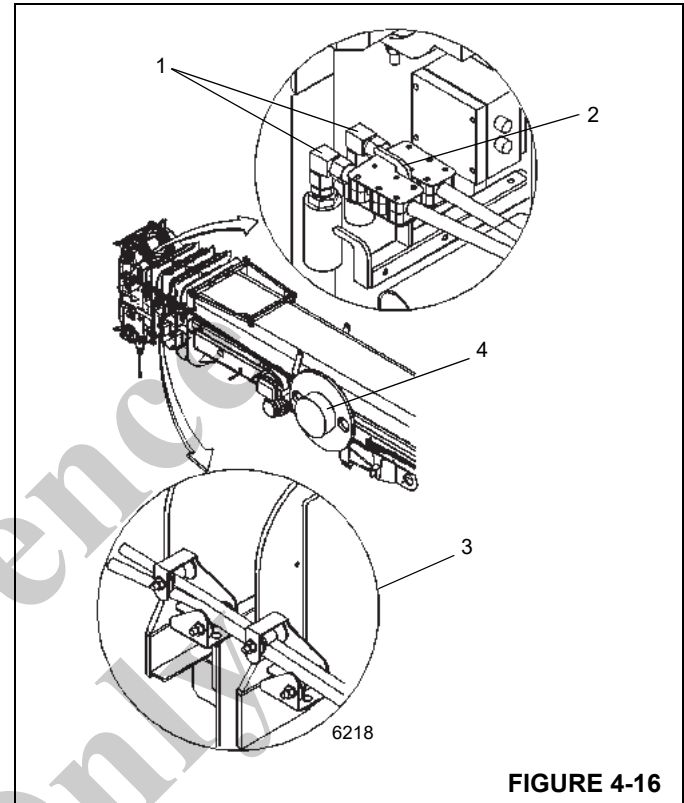

FIGURE 4-16
If the hoses are stowed on the holder on the boom base section, release the hose drum (4) (Figure 4-16) lock pin and pull the hydraulic hoses toward the boom nose. Anchor the hydraulic couplings (1) at the holder (2) on the boom nose. Guide the hydraulic hoses through the guide rollers (3).